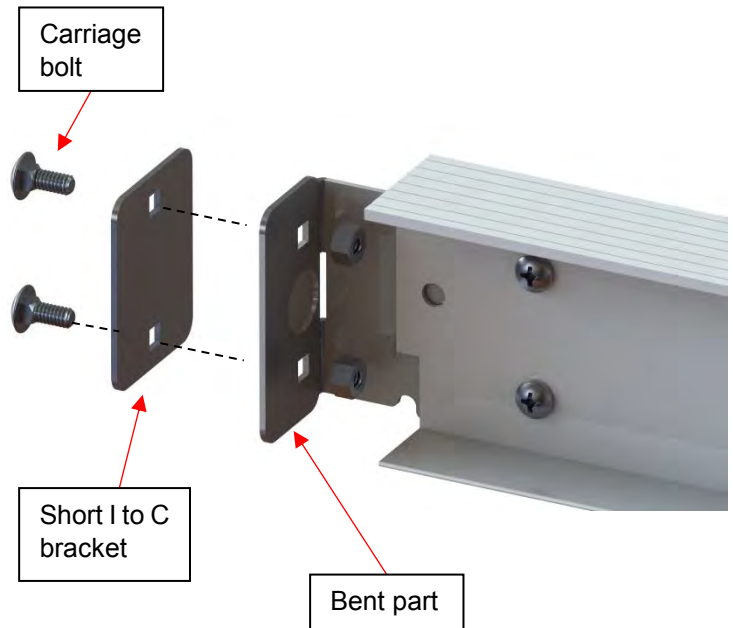

Figure 48
4) For models ranging from **12' to 15'**, you will need to install **one** I-beam with **two short** I to C connection plates per I-beam. (Figure 48)
- ♦ Use 1/4 in.-20 x 5/8 in. carriage bolts, 1/4 in.-20 nuts and 7/16 (11 mm) socket wrench and spanner. Leave 1/4 in. (6 mm) gap in-between the short I to C connection plate and bent part of the I to C bracket (Figure 48).
5) For models ranging from **16' to 20'** you will need to install **three** I-beams with **two short** I to C connection plates per I-beam (Figure 48).
- ♦ Use 1/4 in.-20 x 5/8 in. carriage bolts, 1/4 in.-20 nuts and 7/16 (11 mm) socket wrench and spanner. Leave a 1/4 in. (6 mm) gap in-between the short I to C connection plate and bent part of the I to C bracket (Figure 48).